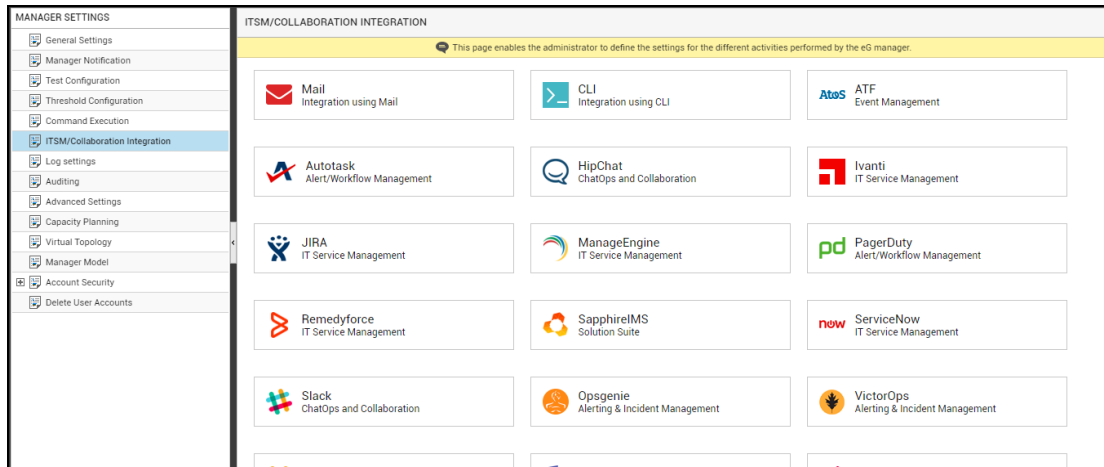
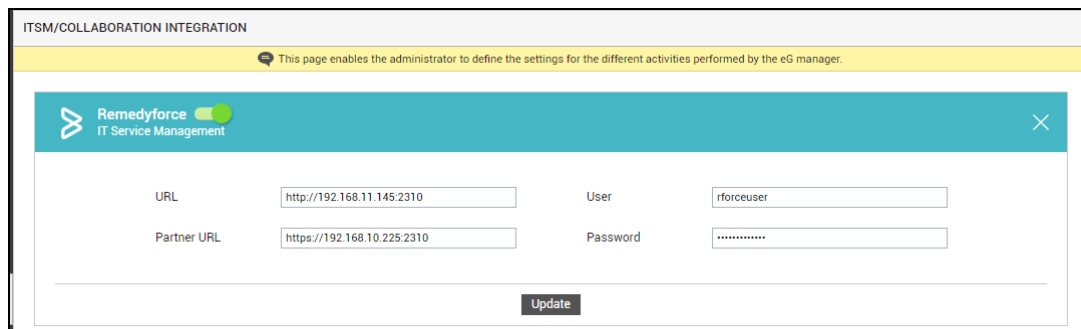

Figure 5.7: Viewing the ITSM/Collaboration tool options
Figure 5.8: Configuring integration with Remedyforce
- Figure 5.7 will then appear. From the **MANAGER SETTINGS** tree in the left panel of Figure 5.7, select the **ITSM/Collaboration Integration** node. The third-party ITSM/Collaboration tools that eG Enterprise can integrate with will be listed in the right panel.
- Now, click on the **Remedyforce** option in the right panel (see Figure 5.7). A **Remedyforce** section will now appear in the right panel (see Figure 5.8).
- To enable integration with Remedyforce, first slide the **Remedyforce** slider in Figure 5.8 to the right.
- Then, specify the following in Figure 5.8:
7. Finally, click the **Update** button in Figure 5.8.